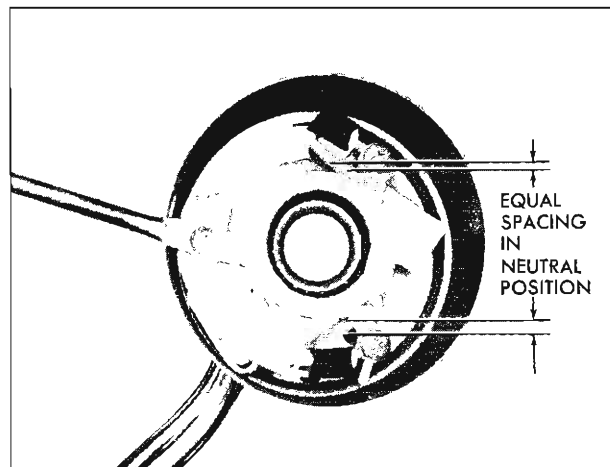

Fig. 9—Turn Signal Lever Position Before Installing Wheel (Chevrolet Shown)
**CAUTION:** Direction signal control assembly must be in neutral position when assembling steering wheel to prevent damage to cancelling cam and control assembly (fig. 9).
**CAUTION:** Directional signal control assembly must be in neutral position when assembling hub assembly to prevent damage to cancelling cam and control assembly (fig. 9).